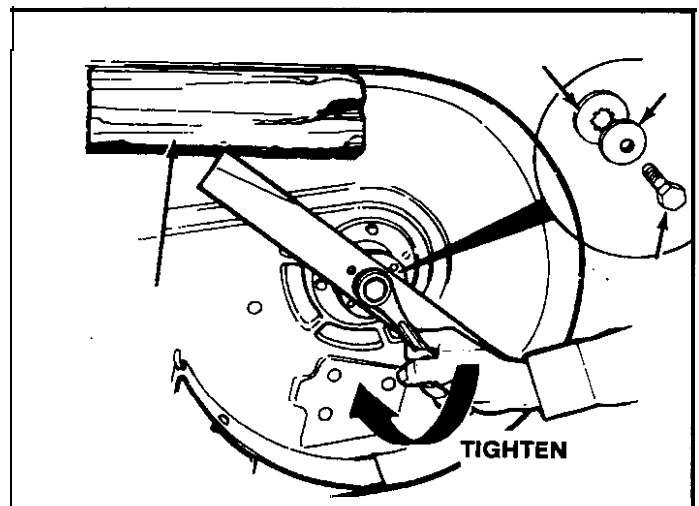

Figure 16. Installing The Blade
6. Reinstall each blade with the tabs pointing up toward deck as shown in figure 16. Secure with a cap screw, spring washer and hex washer. Use a wooden block to prevent blade rotation and torque cap screws to 50-70 ft.lbs. (67-95 N.m.).